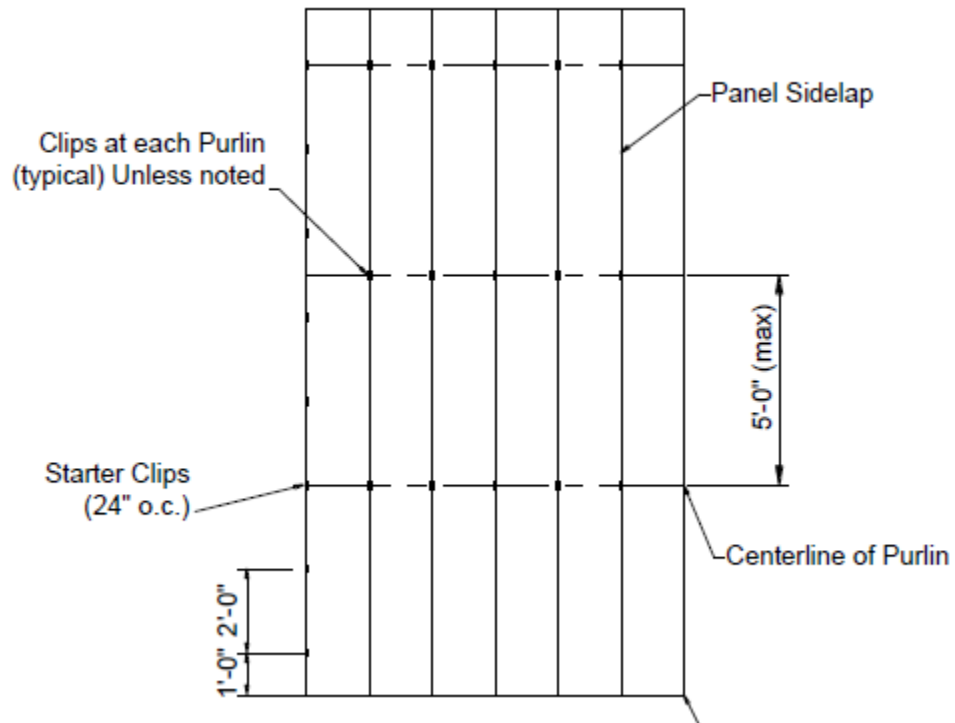

Figure 1. TS-324 Metal Roof Panel Fastener Pattern
Attachment of Metal Panels to the Steel Purlins: The metal roof panels must be secured to the steel purlins with MPS-602 standing seam roof clips (Clip tab: 0.031", 50 ksi steel, G-90 galvanized; Clip base: 0.060", 50 ksi steel, G-90 galvanized) using 1/4-14 x 1-1/2" HWH SD screws. Two (2) screws per clip are required for Tables 1, 2, and 3. Three (3) screws per clip are required for Table 4. The fasteners must be long enough to ensure a minimum penetration of 3 pitches of thread below the steel purlin. Refer to Figure 1 in this evaluation report.